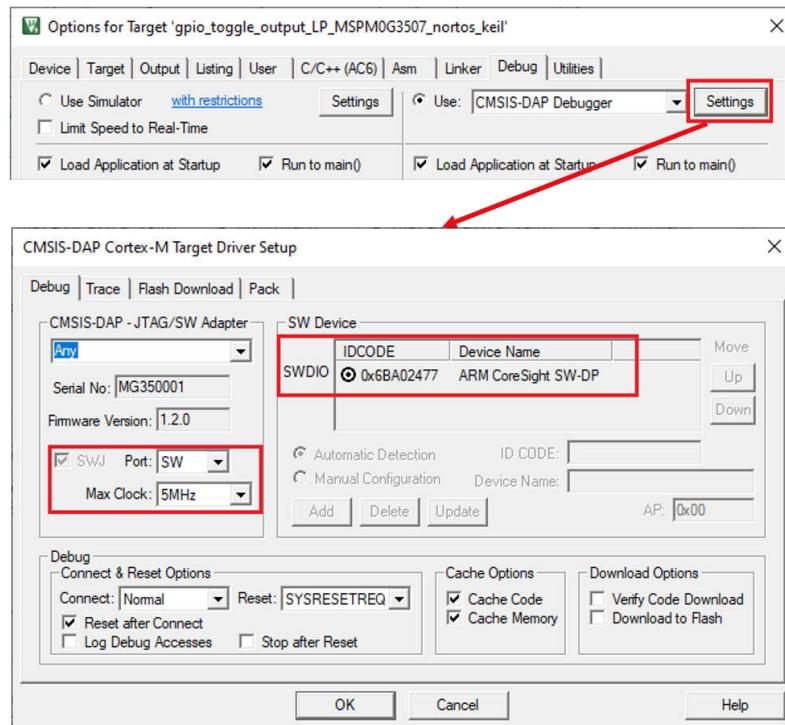
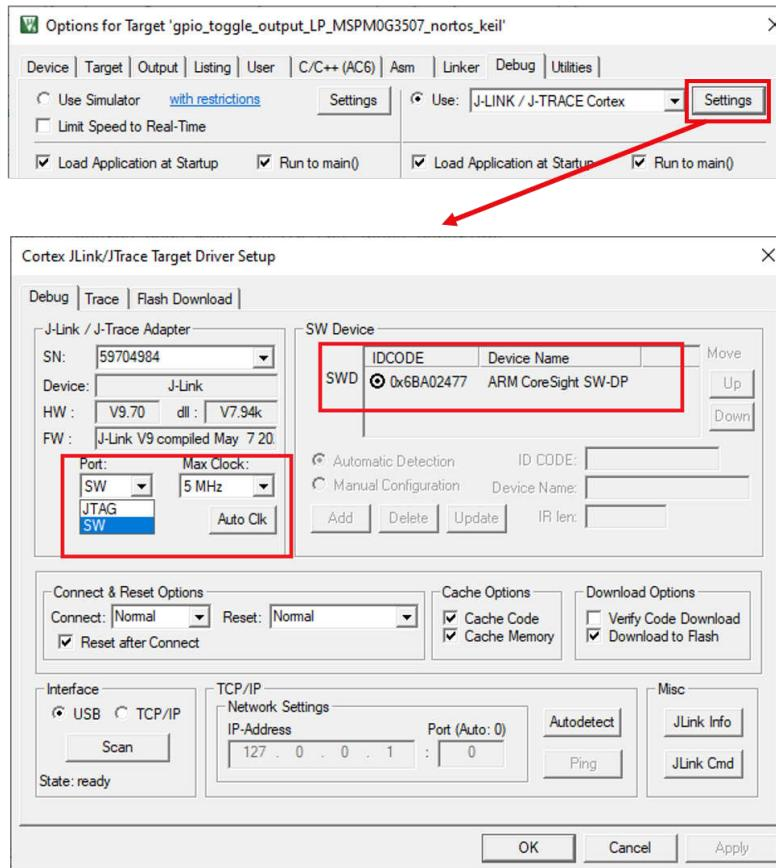

Figure 3-48. Check the Setting of XDS110 Probe
Figure 3-49. Check the Setting of J-Link Probe
3. Click on the *Settings* button. On the *Debug* tab, make sure the settings match with Figure 3-48 and Figure 3-49.